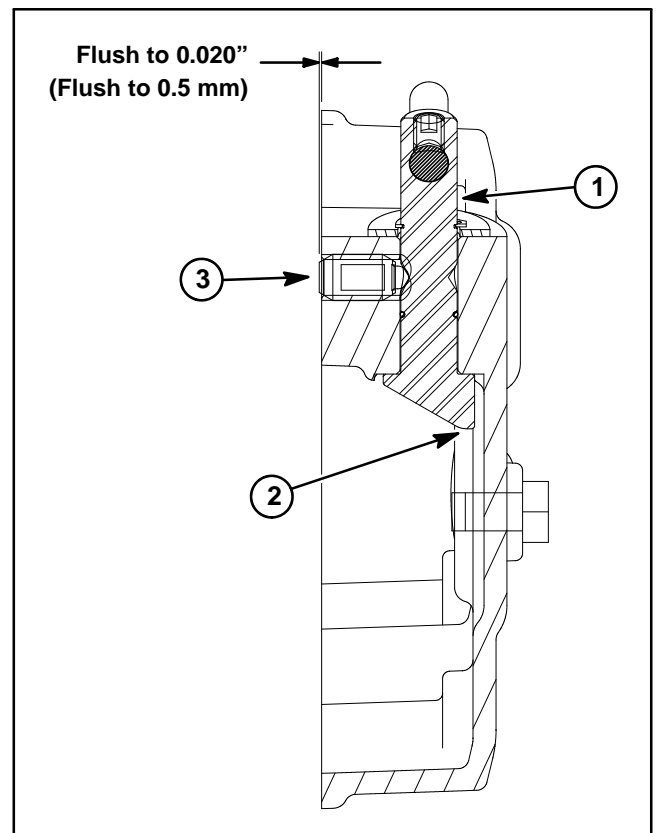

Figure 6
D. Position shaft in cover so that cam point of shaft is located away from the gasket surface (Fig. 6).
E. Install plunger detent into groomer cover so that end of plunger is flush to 0.020" (0.5 mm) extending from cover surface (Fig. 6).